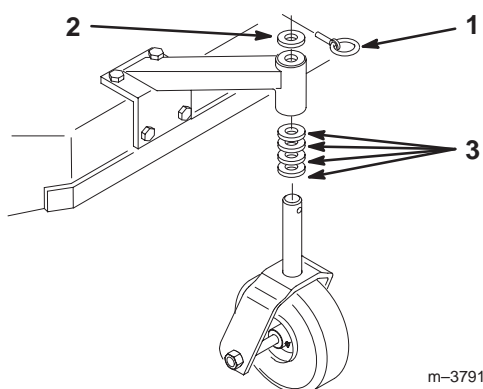

Figure 28
1. Using the Height-of-Cut Chart (on page 26), adjust the caster spacers to match with the axle hole selected (Fig. 28).
2. Remove the clevis pin, slide the caster from the support, and change the spacers (Fig. 28).
3. Install the caster in the support and insert the clevis pin (Fig. 28).